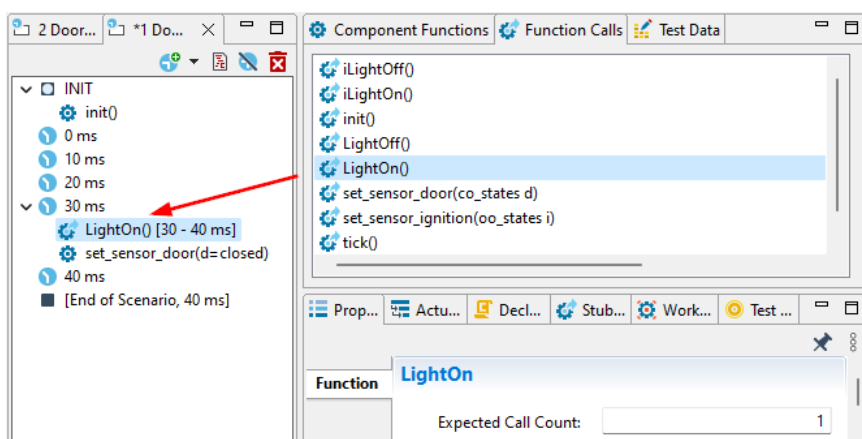

Figure 5.87: Dragging the function
- Specify the expected result by dragging the function `LightOn()` from the Function Calls tab to 30 ms simulated time (see figure 5.87).